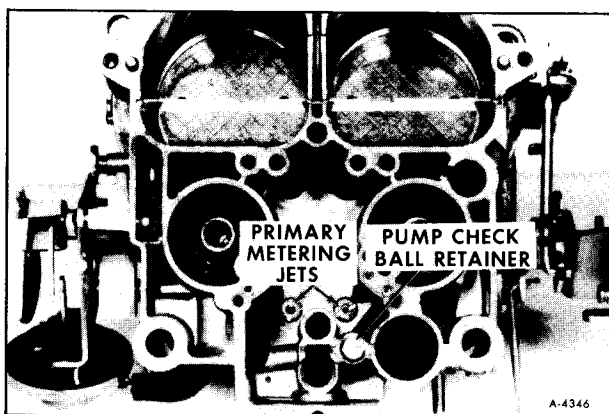

Figure 17—Primary Metering Jets
3. Install primary metering jets. See Figure 17.